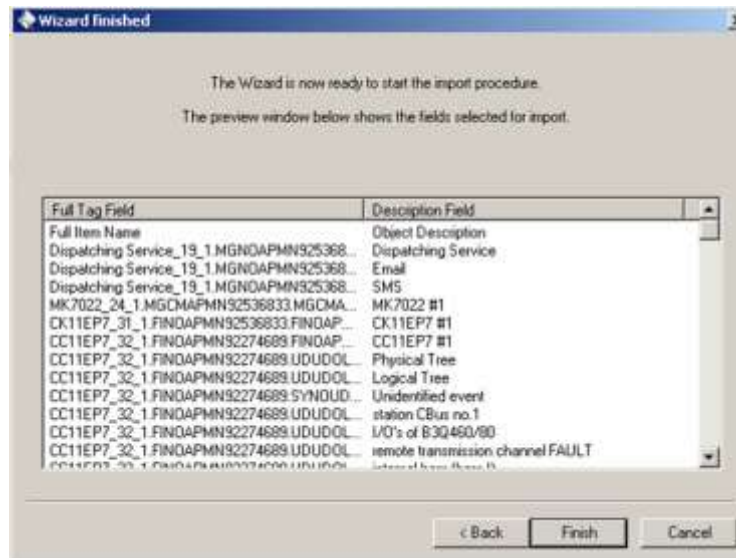

Fig 10 Step 3 Import Wizard: check selection and finish
- Finally, check that the column selection is correct and click Finish to start executing the import (Fig 10).